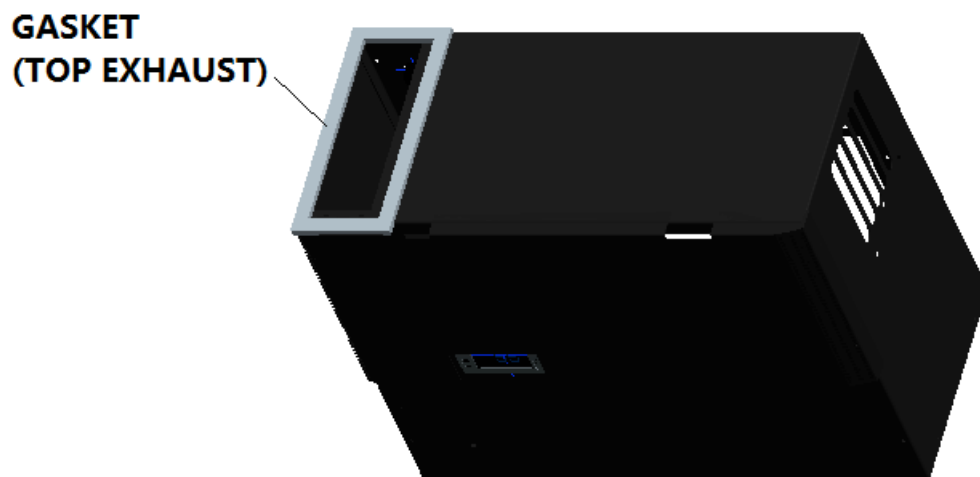

Fig. 2.5 TOP EXHAUST GASKETS
- along the top exhaust at the top of the cooling unit (see Fig. 2.5).